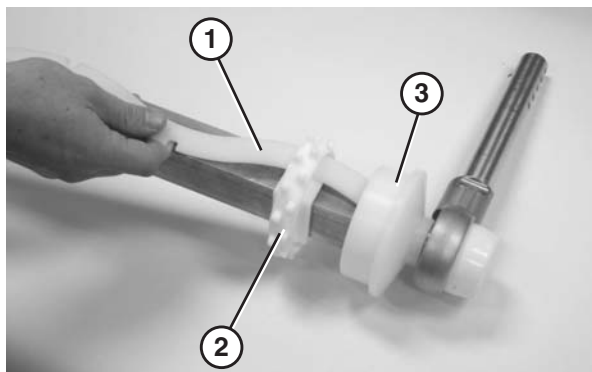

**Figure 79**
1. Attach a flanged puck (**Figure 79, item 1**) and bearing shaft assembly (**Figure 79, item 2**) to the shorter end of the drive spindle.
2. Slide the first sprocket (**Figure 79, item 3**) onto the drive spindle.